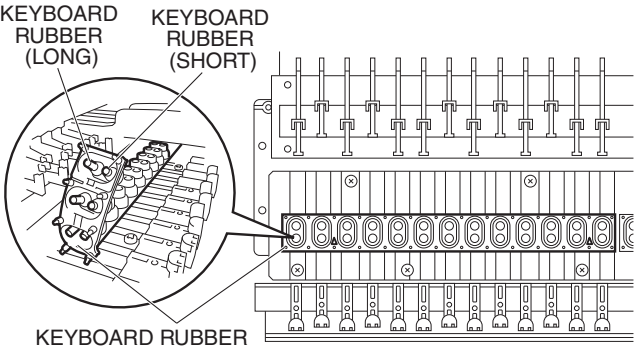

Fig. 20
* **The orientation of keyboard rubber on the keyboard is previously designated. Pay attention not to install the keyboard rubber inversely. (Fig. 20)**